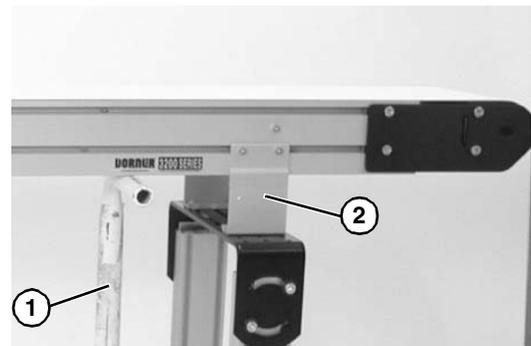

Figure 29
1. Place temporary support stands (Figure 29, item 1) at both ends of the conveyor. See WARNING.
4. Remove first mounting brackets (Figure 29, item 2) from one side of conveyor. (Reverse steps 3 & 4 of “Mounting Brackets” section on page 8).
1. Ensure temporary support stands (**Figure 29, item 1**) are placed at both ends of the conveyor. See WARNING.